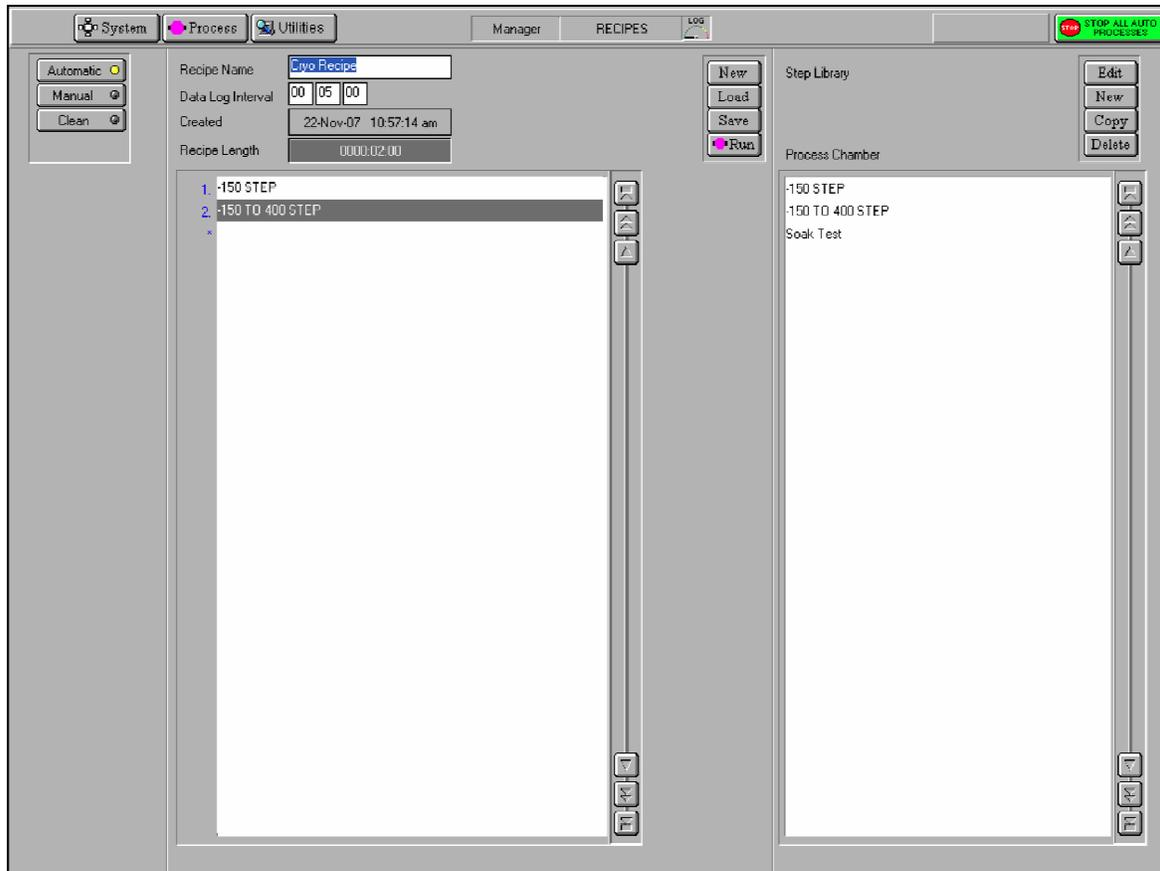

Fig. 5. Recipes Page
- i. Switch current page to “Recipes” by selecting the menu item “Process -> Recipes”, as shown in Fig. 5.